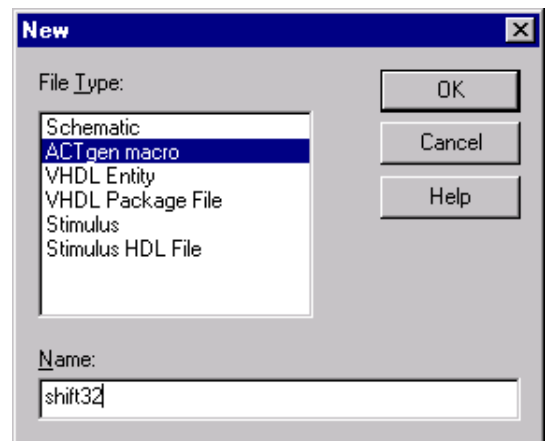

Figure 3 - Libero's New File dialog box
1. From within Libero IDE, double-click on *ACTgen* in the process window. The New File dialog box is displayed (Figure 3).